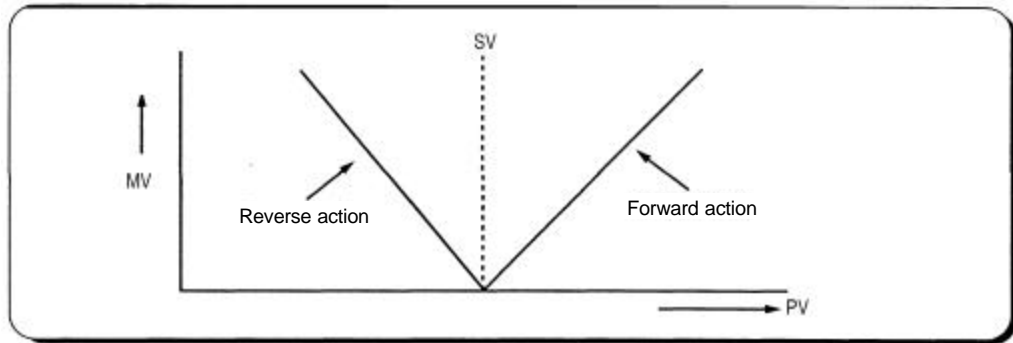

Fig. 2-9 MV of forward / reverse action
- 2) A diagram in which forward and reverse actions are drawn using MV, PV and SV is shown as Fig. 2.9.